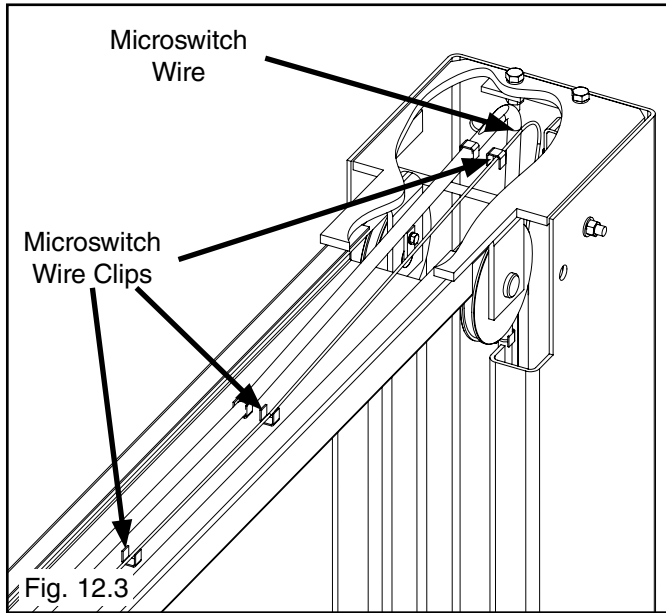

Fig. 12.3
3. Route wire up through post and across Overhead Assembly through hole in Overhead Assembly into the Microswitch box. (See Fig. 12.3)